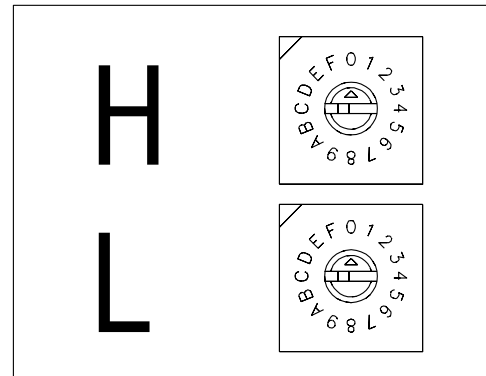

Figure 11: Driver Address Dials
Addresses are set through the **S2 (L)** and **S3 (H)** rotary switches on the driver (**Figure 11**) using a small flathead screwdriver.